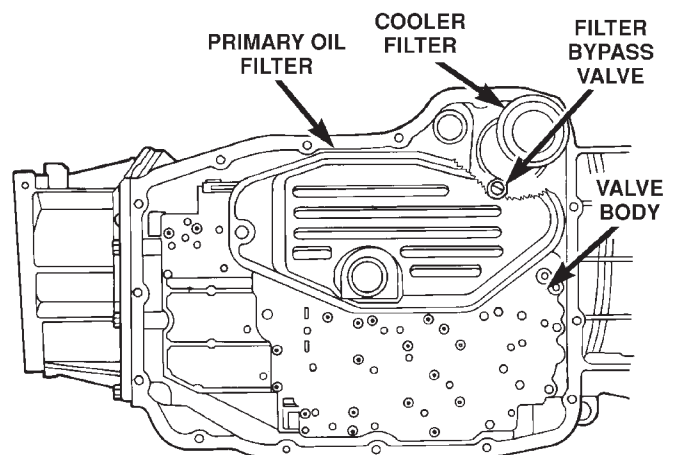

Fig. 11 Transmission Filters
- (1) Hoist and support vehicle on safety stands.
- (2) Place a large diameter shallow drain pan beneath the transmission pan.
- (3) Remove bolts holding front and sides of pan to transmission.
- (4) Loosen bolts holding rear of pan to transmission.
- (5) Slowly separate front of pan away from transmission allowing the fluid to drain into drain pan.
- (6) Hold up pan and remove remaining bolt holding pan to transmission.
- (7) While holding pan level, lower pan away from transmission.
- (8) Pour remaining fluid in pan into drain pan.
- (9) Remove screws holding filter to valve body (Fig. 11).
- (10) Separate filter from valve body and oil pump and pour fluid in filter into drain pan.
- (11) Using Oil Filter Wrench 8321, remove the cooler return filter from the transmission.
- (12) Dispose of used trans fluid and filter properly.
(1) Place replacement filter in position on valve body.
(2) Install screws to hold filter to valve body (Fig. 11). Tighten screws to 4.5 N·m (40 in. lbs.) torque.
(3) Install new cooler return filter onto the transmission. Torque the filter to 14.12 N·m (125 in. lbs.).
(4) Place bead of Mopar® RTV sealant onto the transmission case sealing surface.
(5) Place pan in position on transmission.
(6) Install screws to hold pan to transmission. Tighten bolts to 11.8 N·m (105 in. lbs.) torque.
(7) Lower vehicle and fill transmission with Mopar® ATF Plus 3, type 7176 fluid.